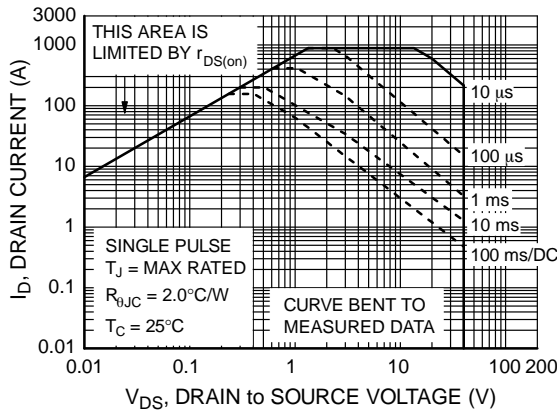

Figure 11. Forward Bias Safe Operating Area
2. Pulsed  $I_D$  please refer to Figure 11 and Figure 24 SOA graph for more details.